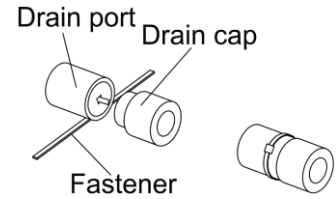

Figure 3-1-12
- (7) When the unit is shipped from the factory, the drain port is defaulted to be the one on the left side (electric box side); the port on right side has been plugged.
- (8) When using the drain port on the right side of the unit, reinstall the drain cap to the left side drain port. (Figure 3-1-12)